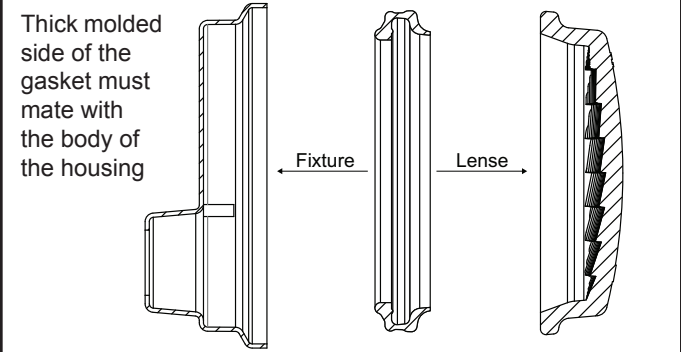

Figure 10. Cross Section of Jandy Pro Series WaterColors LED Light
- While holding the fixture upright, place the glass lens with the gasket on top of the fixture. Please note that the lens gasket is not symmetrical. Therefore, it must be installed correctly so that the lens can seal to the fixture housing. Place the gasket on the lens with the orientation shown in Figure 10. On the small light, replace the diverger by tucking the tabs between the lens and gasket.